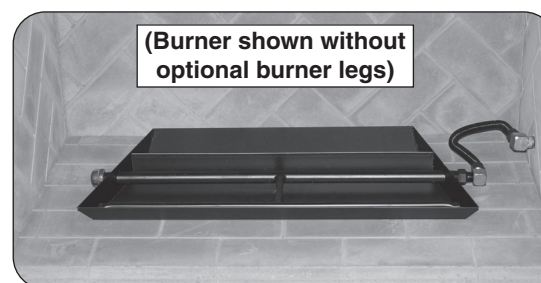

Fig. 10-3 Center burner in fireplace
5. Place the burner system in the fireplace. Center the burner from left to right in the fireplace. (Reference Fig. 10-3 for orientation.)